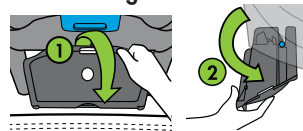

Figure 29
Grasp front edge of UAS Bin (1), and rotate it away from the Carrier (2), as shown in **Figure 29**.